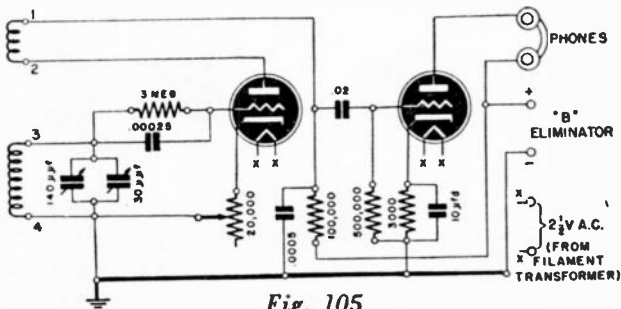

Fig. 105
A. The circuit in Fig. 105 should work well. If your B-eliminator is well filtered you may find it necessary to add a 10,000-ohm resistor between the 100,000-ohm unit in the detector plate circuit and the high-voltage connection, and a large (8 to 20 μf) condenser from the junction of the two resistors to detector cathode or ground. In a regenerative cir-